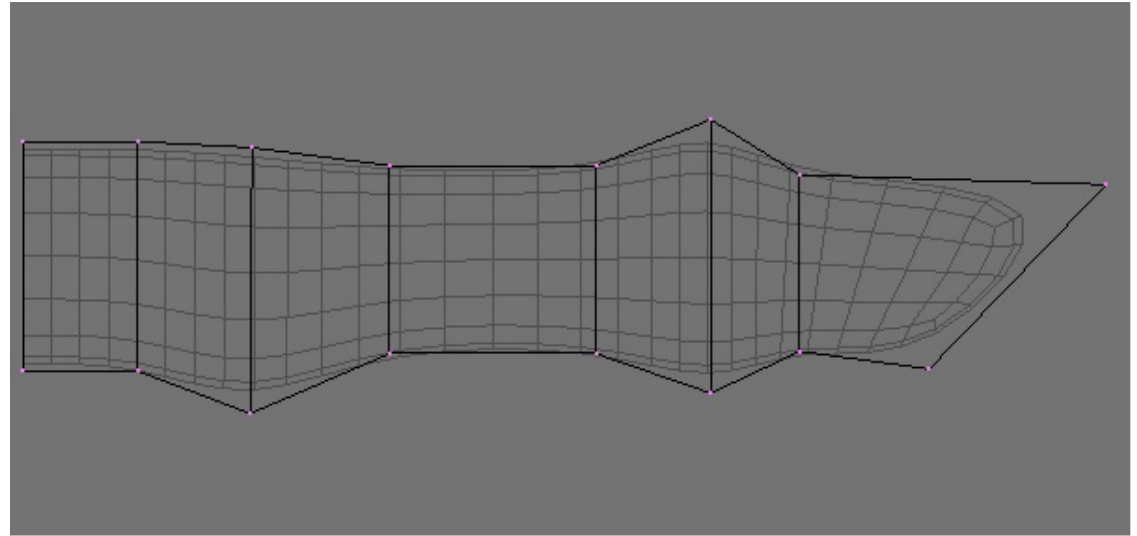

Fig 3. The side view of the developing finger. Drag vertices down where muscle is and start shaping the tip of the finger.
5. Now go into a side view and do the same thing again, just trying to get a shape similar to Figure 3. You can always look at your own finger for guidance. Just pull and tweak the vertices until it looks right.